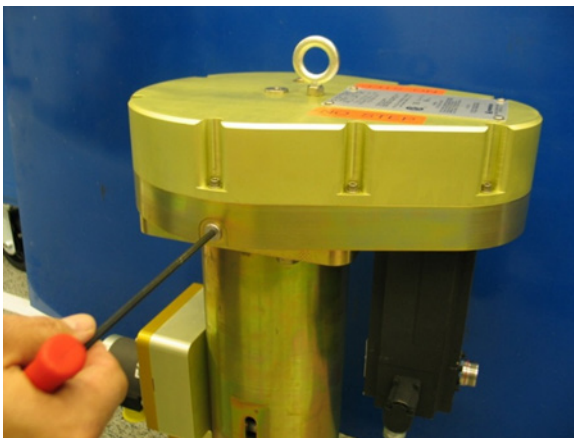

Figure 4-11
2. Remove the bearing port plug (either side, only one should be removed to properly lubricate) with a 3/16 inch hex wrench (Figure 4-11).